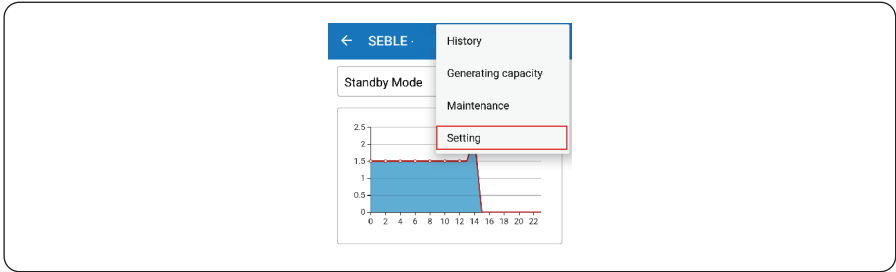

Figure 5.21 APP homepage setting
**Step 2** Click the Extension key, and select Setting in the prompt manual, as shown in Figure 5.21.